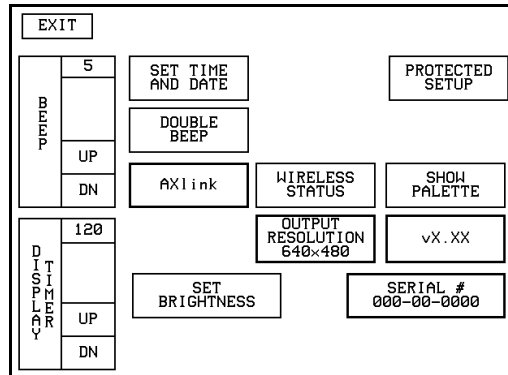

FIG. 11 Setup page
1. Press SETUP in the Main page to open the Setup page (FIG. 11).